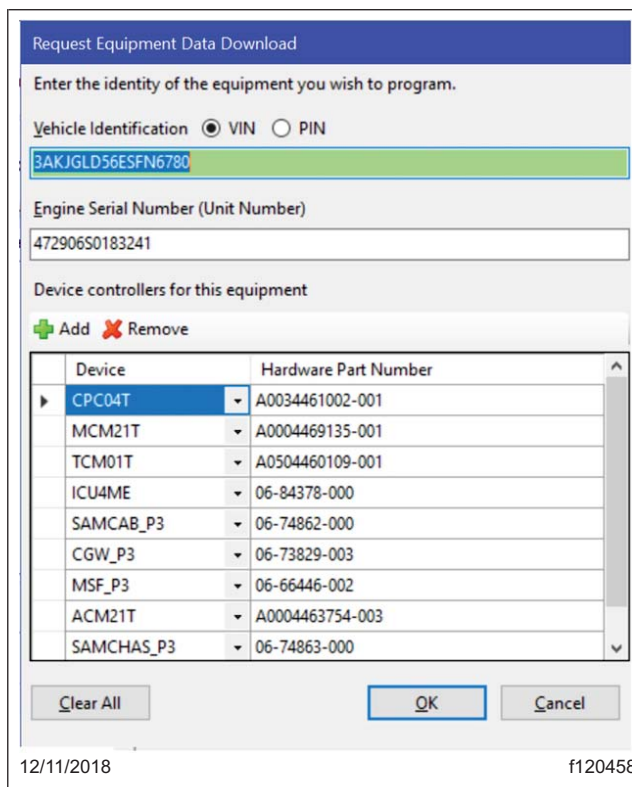

Fig. 5, Verifying Correct VIN Hardware
7. Make sure the correct VIN and hardware is populated, then click OK. See Fig. 5.